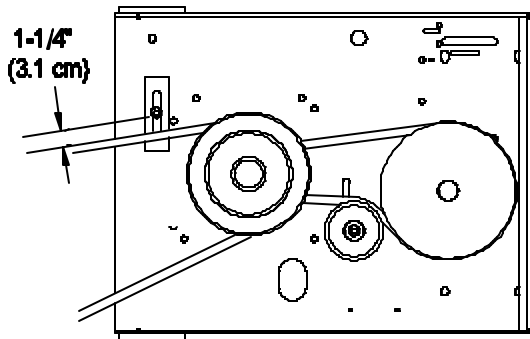

FIGURE 23
- c) Check belt guide under the engine deck for proper adjustment (See Figures 23 and 24). Adjust as necessary.